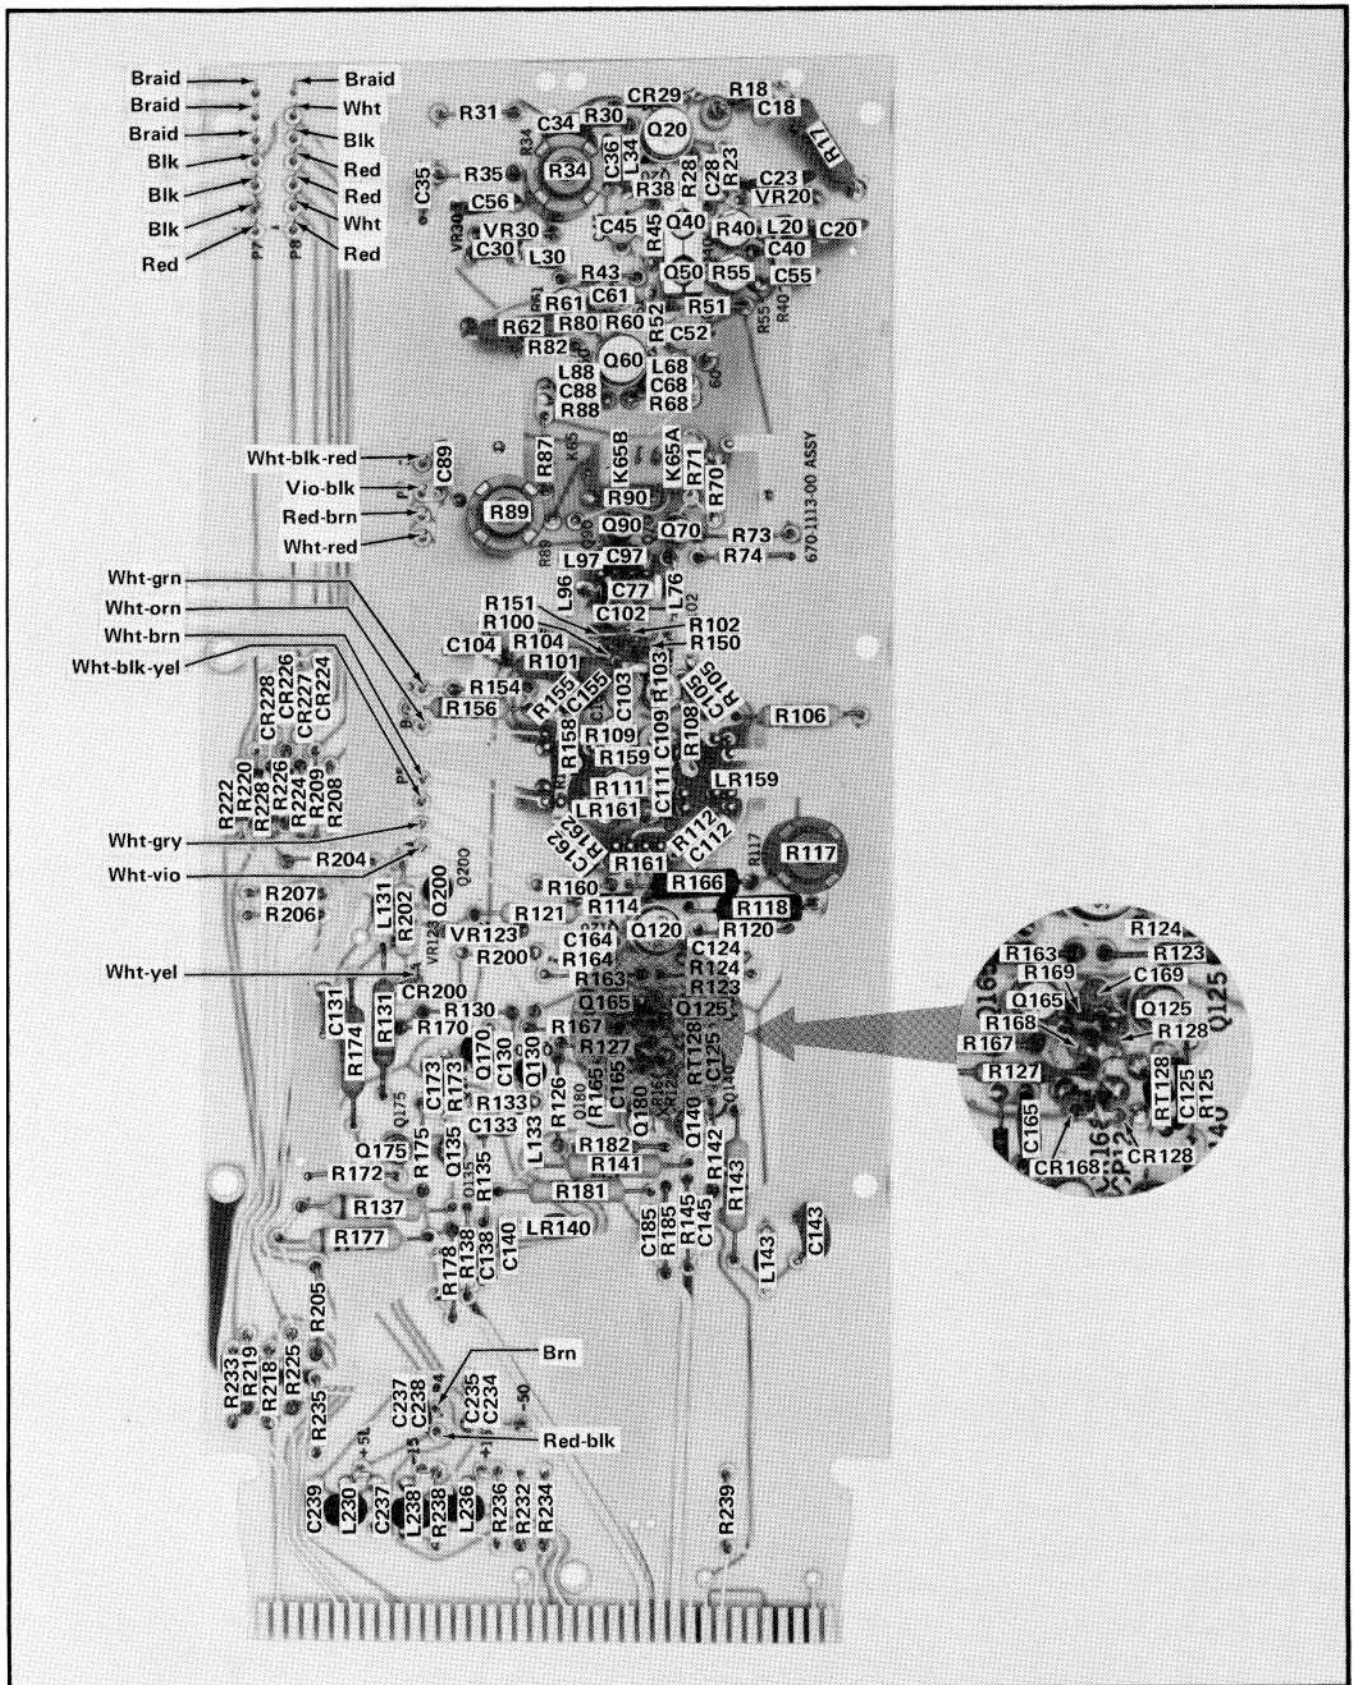

Fig. 4-5. Main amplifier circuit board (front).
12. Install the replacement circuit board by reversing the above procedure. The wiring color-codes for the pin connections are shown in Fig. 4-5.